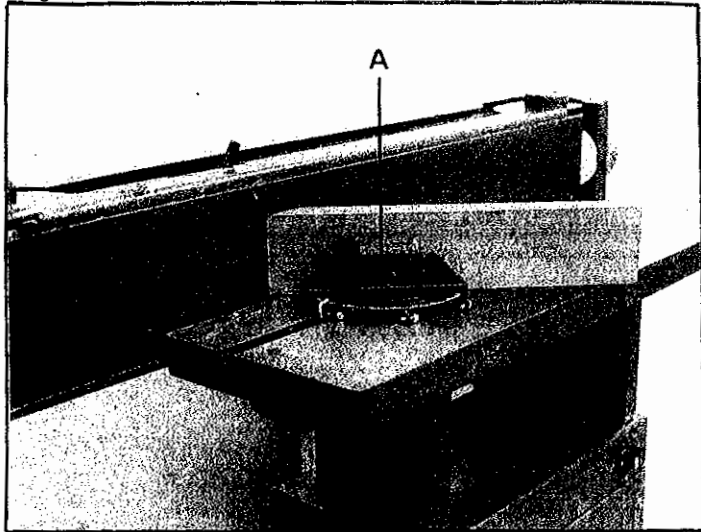

Fig: 5
1. MITER GAUGE (A) CAN BE ADJUSTED 45° – 90° AND CLAMPED BY HEX. HANDLE (B), SEE FIG. 5
2. ADJUST MITER GAUGE (A) TO GET REQUIRED ANGLE GAUGE.